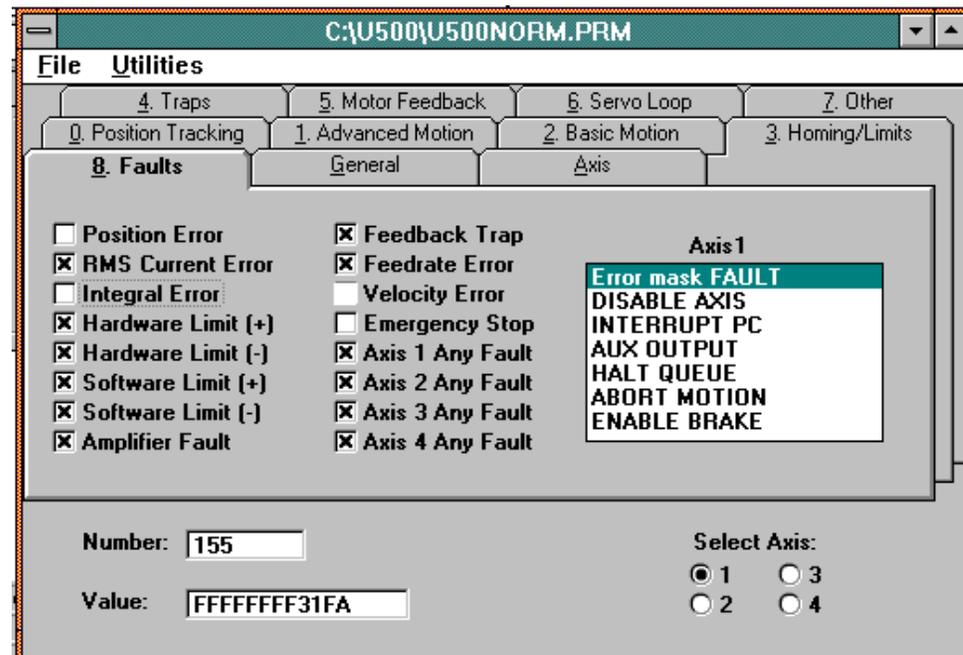

Figure 6-19. The Edit Parameters Window
1. Turn off the “Position Error,” “Integral Error,” and “Velocity Error” Traps. In the UNIDEX 500 software, open the Parameters Window via the Edit menu and de-select the Position Error and the Integral Error under the parameter tab called “Faults.” Refer to Figure 6-19.